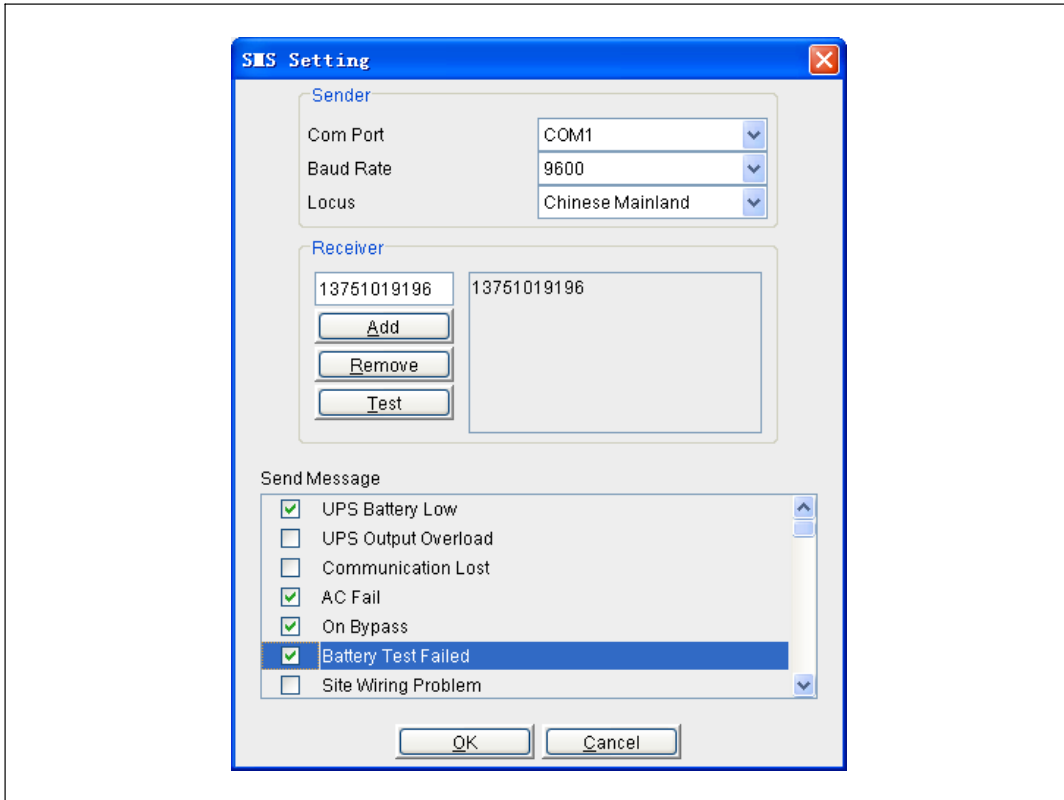

Figure 56. SMS Setting Window with Selections
- 1 Select the communication port that is being used by a GSM modem or mobile phone (see Figure 56).